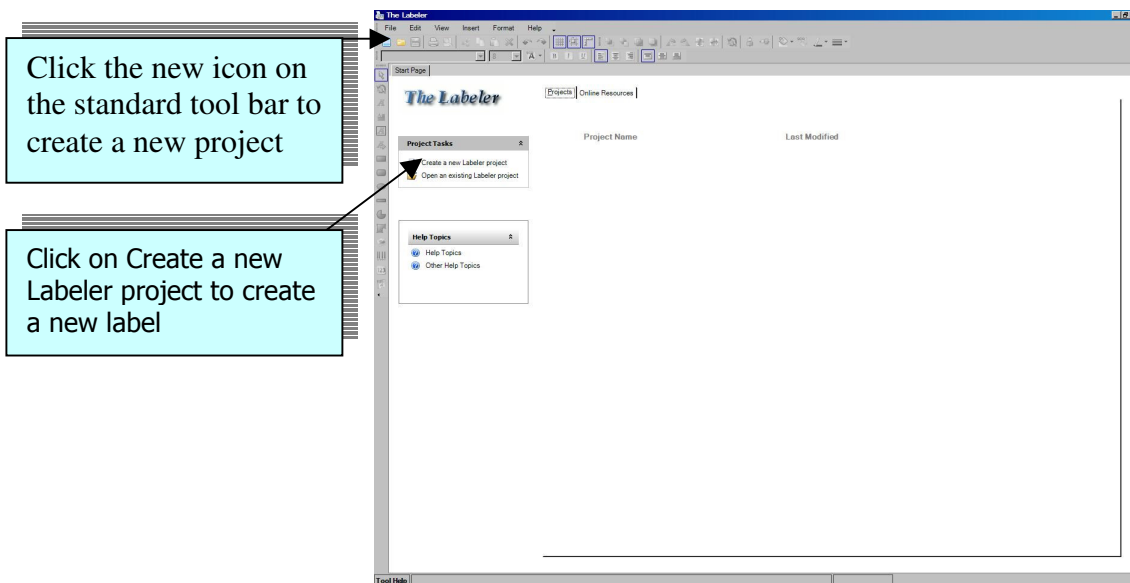
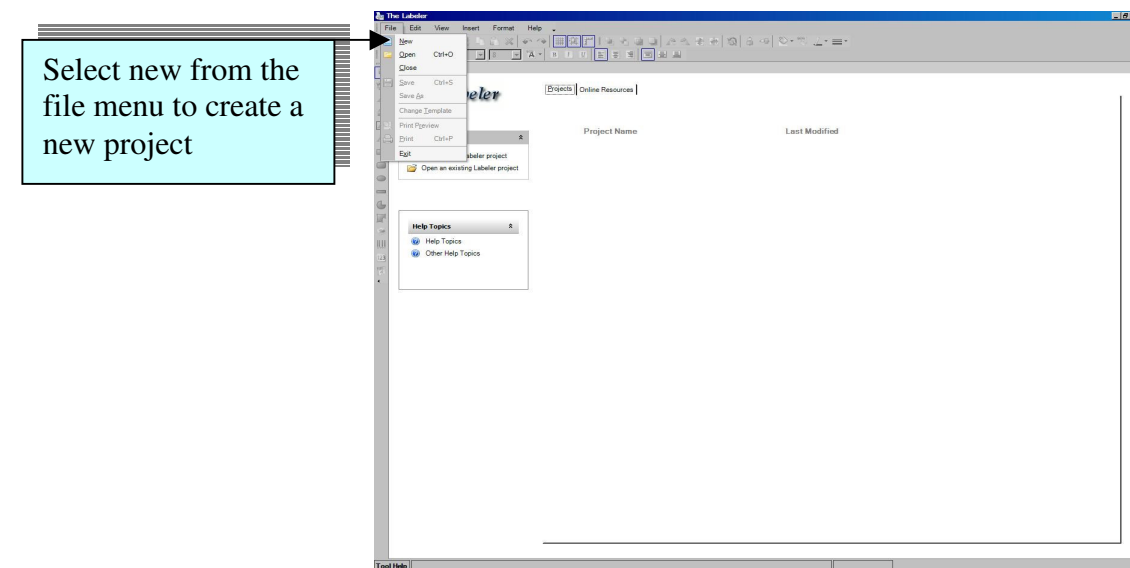

Figure 3.1.1 Main Screen Part 1
Figure 3.1.2: Main Screen Part 2
1. Click Create a new labeler project (see Figure 3.1.1).
You can also start a new label project by selecting the new  icon on the standard tool bar (see Figure 3.1.1) and by clicking new from the file menu (see Figure 3.1.2).